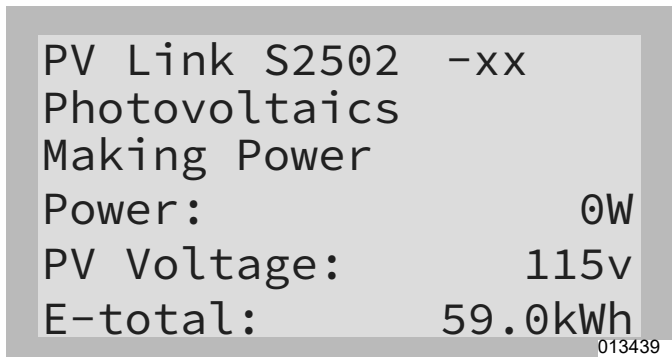

Figure 7-13. PV Link Device Page
- 11. See Figure 7-13. Confirm PV Links are in state, “making power.”